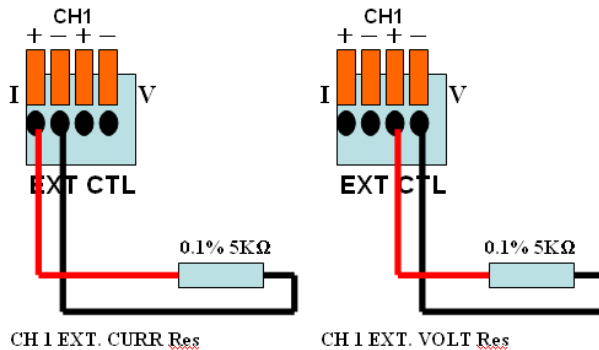

Figure 37- External Resistance Control Calibration setup (left) Current (right) Voltage
- To begin calibration with the external resistor, remove the DC source and connect the precision resistor to the control card, as shown in Figure 37(right) below.
- Once finished, **CH1 EXT. CURR Res** will be selected. Connect the precision resistor as shown in Figure 37(left). Press to proceed with the calibration.